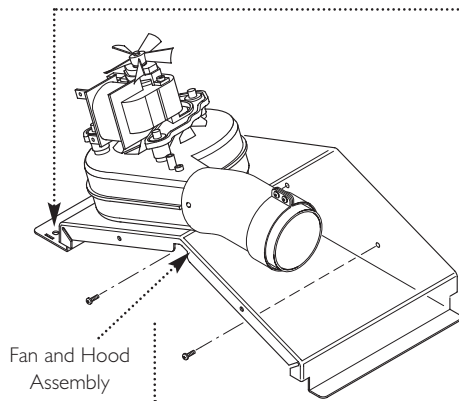

Fig. 57
11. Undo the screws securing the fan and hood to the appliance back panel. Draw the assembly forwards (Fig. 57).